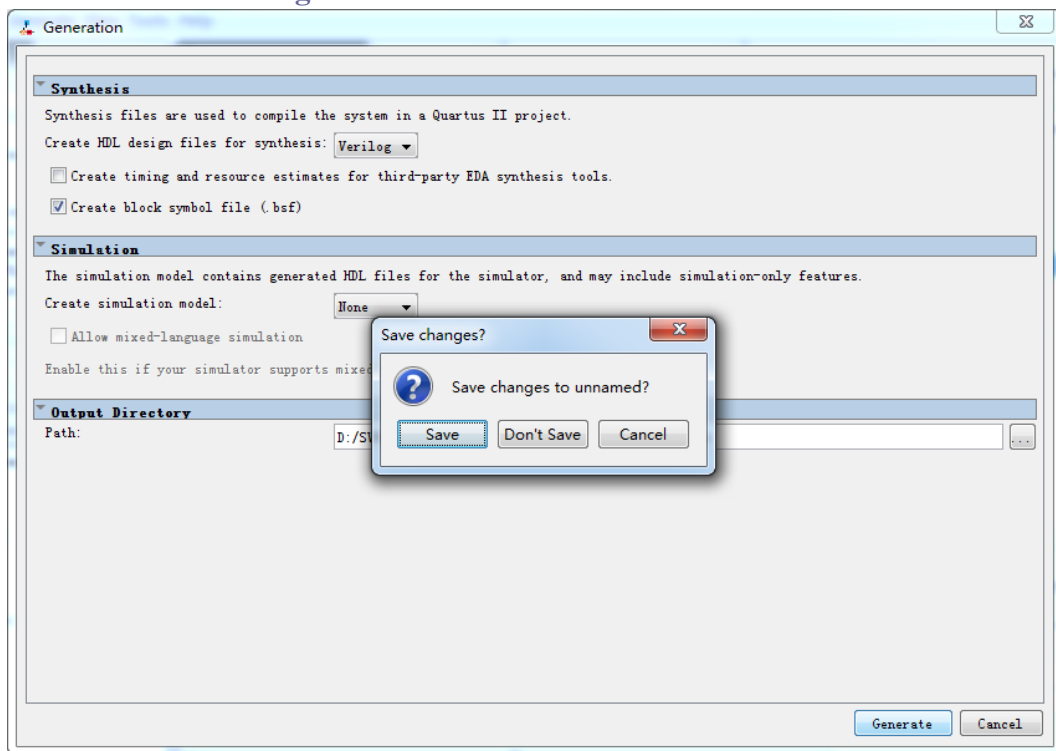
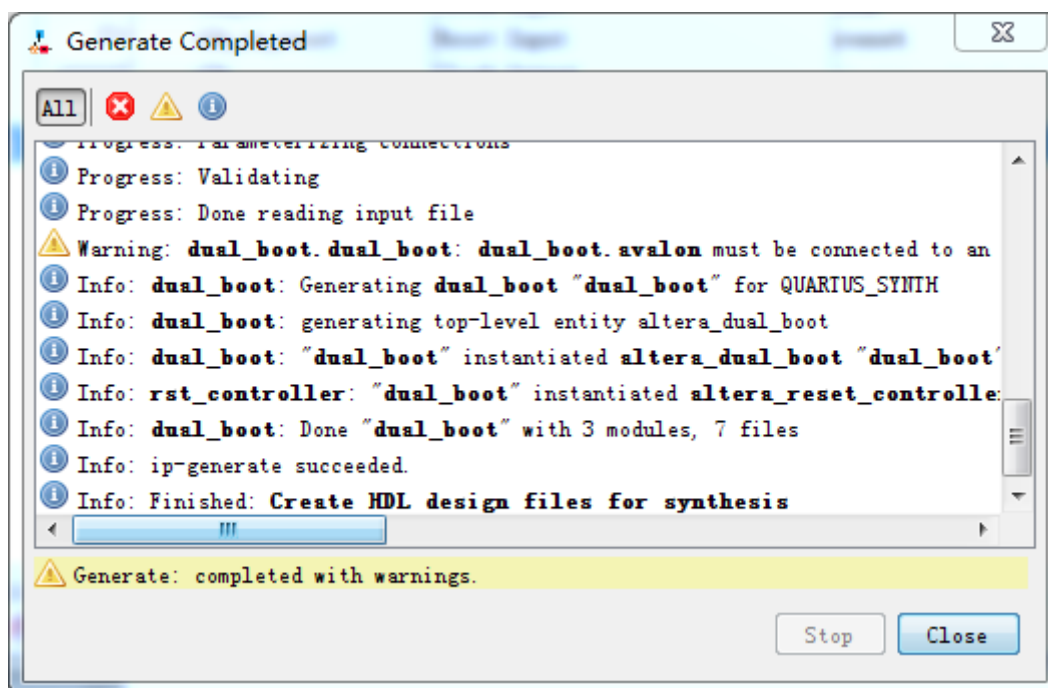

Figure 8-8 Generate and save Qsys
Figure 8-9 Generate Qsys Completely
5. Click **Generate** tab and click **Generate** then pop a window as shown in Figure 8-8. Click **Save** it as dual_boot.qsys and the generation start. If there is no error in the generation, the window will show successful as shown in Figure 8-9.